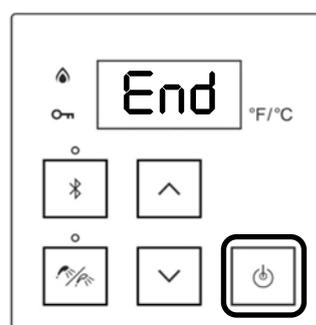

Figure 83
17. Push the power button, and the display shows “End” (Figure 83).